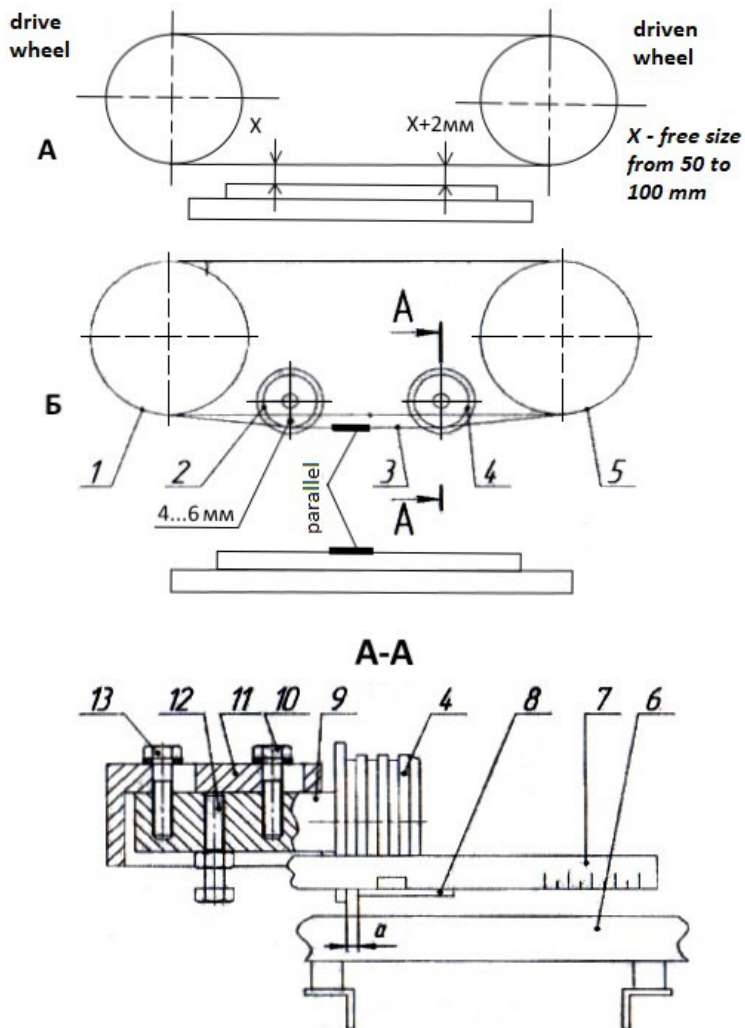

Fig.5. Guide roller adjustment diagram.
2.3.2.2. Adjusting the guide rollers (fig. 5) The device has two guide rollers, interacting with the band saw, preventing it from vibrating and pulling away. The adjustment must be started with roller 2, for which loosen the screws 10, 13 and move the roller down with the screw 12, keeping the size 4-6 mm between the outer diameter of the roller and the bearing surface of the pulleys 1 and 5. After that, adjust the roller 4 in a similar way. Using screws 10, 12, 13, set the parallelism of the saw 3 with the ruler 7 relative to the bar 6 with a tolerance of 0.3 mm / 0.5 mm and keeping the dimension "a" (section A-A) 1 mm (between the working end of the roller 2 and the saw). Do the same with roller 4, keeping dimension "a" - 2 mm. After that, once again check the parallelism of the saw to the table and, if necessary, readjust and fix the roller axis with screws.